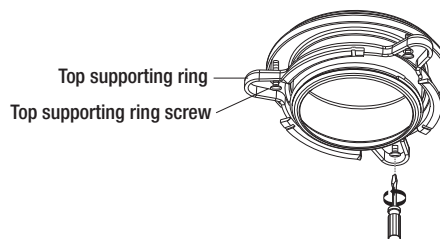
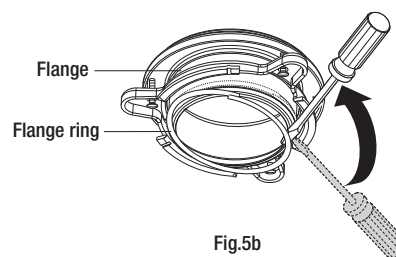

Fig. 5a
Fig. 5b
- Loosen the 3 screws all the way or remove them from the top supporting ring (Fig. 5a), then use a screw driver to remove the flange ring (Fig. 5b).